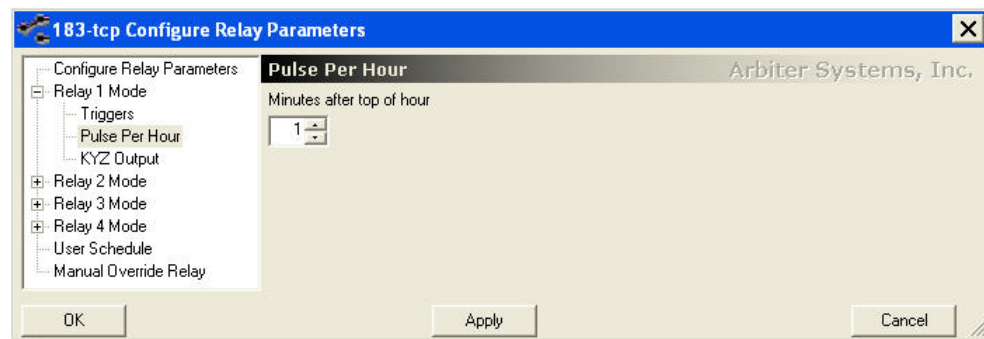

Figure 7.17: Configure Pulse-Per-Hour Mode
2. Now, click the + sign to the left of the desired relay and choose “Pulse Per Hour” in the tree below the relay. On the right panel, adjust the offset if desired. Click OK when finished. See Figure 7.17.